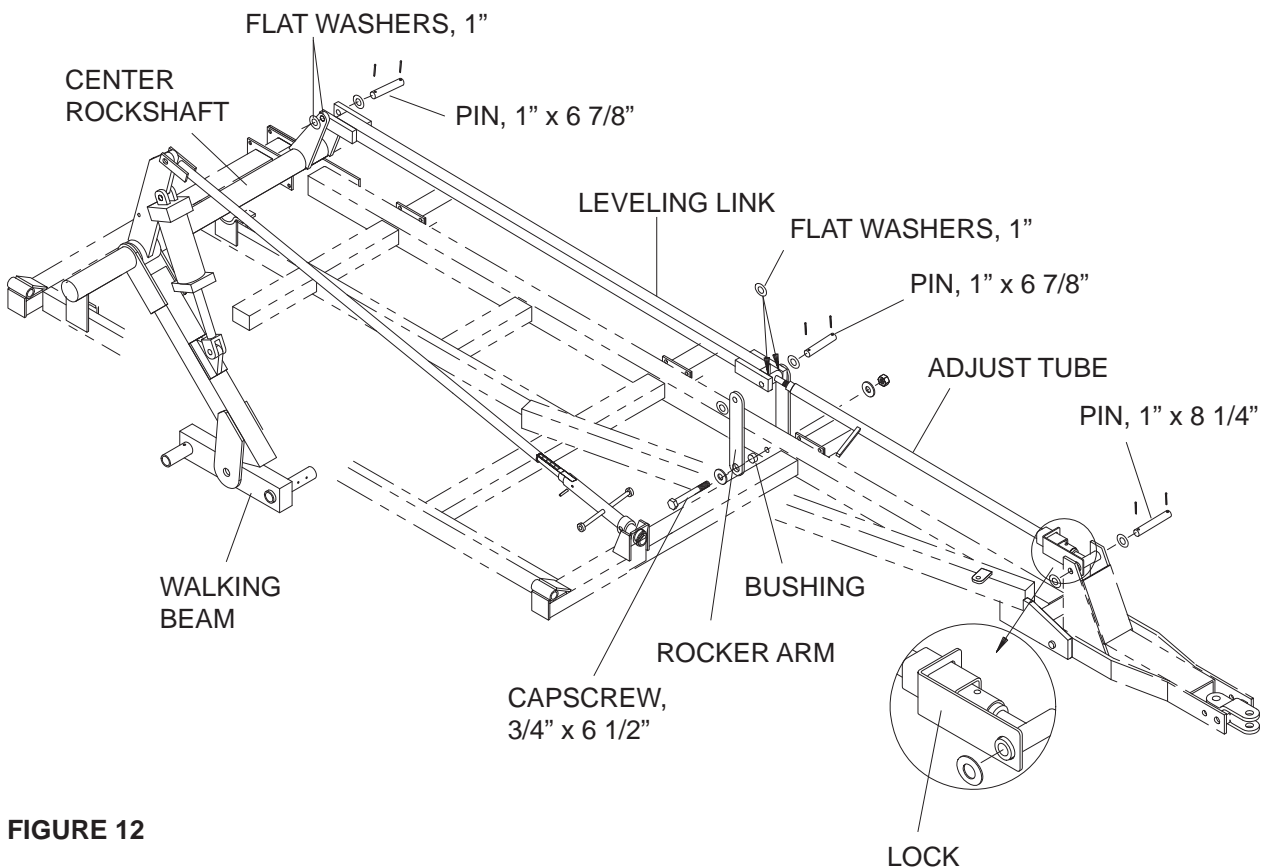

FIGURE 12
- B. Connect the leveling link between the lugs on center rockshaft with a 1" diameter x 6 7/8" long pin, 1" diameter flat washers, and (2) 1/4" diameter x 2" long roll pins.
- C. Install the other 1" diameter x 6 7/8" long pin through one of the rocker arms, then through a washer and through one of the lugs of the leveling link, then through a 1" washer, the rod end of the adjust tube, another 1" washer, then through the other lug of the leveling link, a washer, and finally through the remaining rocker arm. Trap the pin with (2) 1" diameter flat washers and (2) 1/4" diameter x 2" long roll pins.
- D. Slide the rod screw of the other end of the adjust tube through the hole in the lock and connect that end to the plates on the tongue with a 1" diameter x 8 1/4" long pin, (2) 1" diameter flat washers, and (2) 1/4" diameter x 2" long roll pins. The lock fits down over the square tube near the end of the adjust tube to hold it in place during operation. See figure 12.